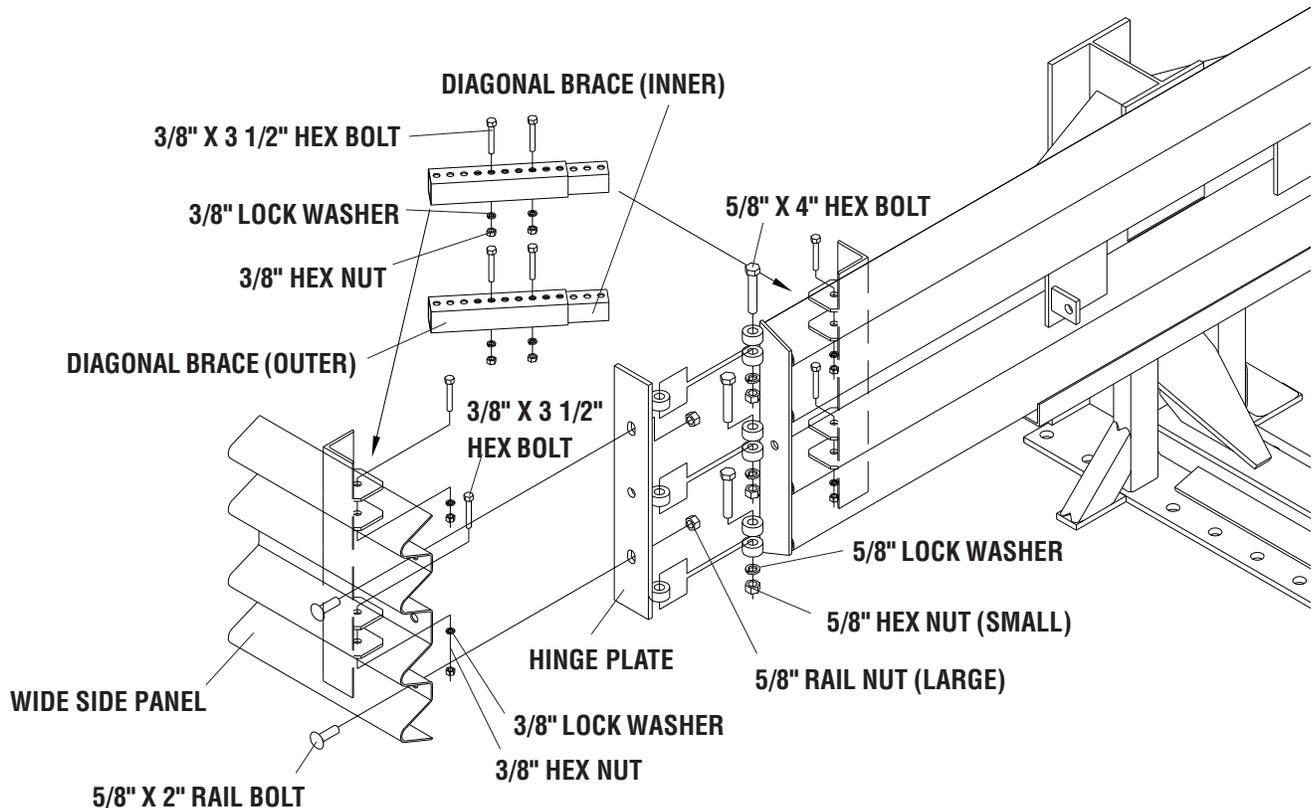

Figure 50
A. Tension Strut Backup Installation (Figure 50)
Attach the transition panel or side panel as appropriate to each side of the backup. Refer to Figure 50 and the drawing package for more information.